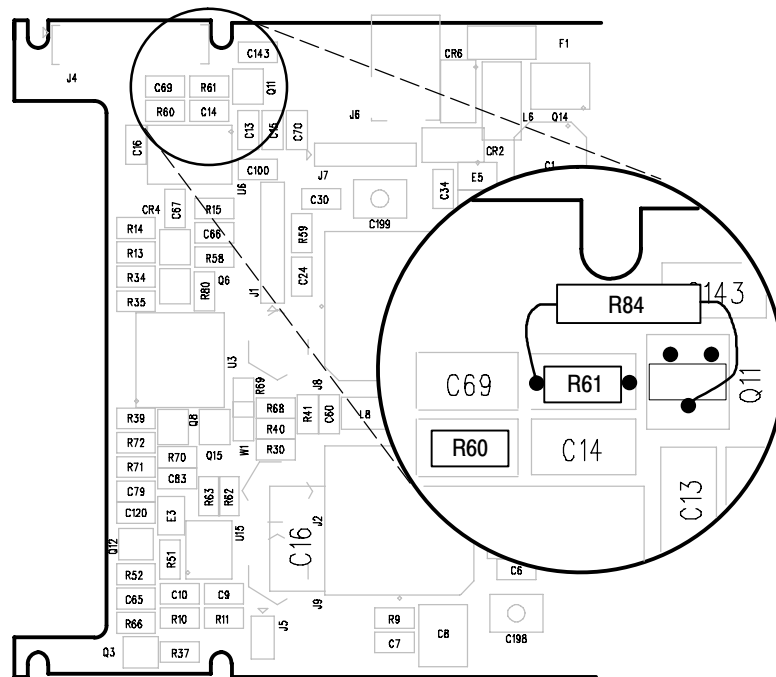

Figure 6: Partial Main circuit board (SDA601) showing location of changed parts
1. Remove R84 (470 Ω resistor) shown in Figure 6.
1. Replace R60 with the 15 k Ω resistor provided in the kit. See Figure 6 for location.